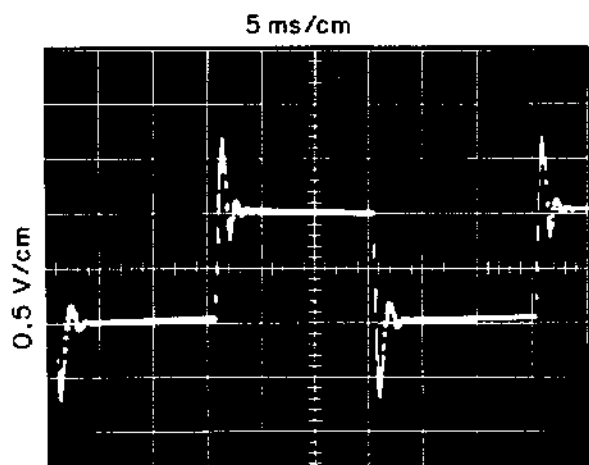

Figure 5-32. Typical Response, 1st LO Step Voltage
- (19) Refer to Figure 5-32, and if required, make slight adjustments to R21, R22, and R24 to make the oscilloscope response like that shown in the figure.
- (20) Turn the receiver off before changing the test setup in the next step. This will prevent damage to the VCO output stage.